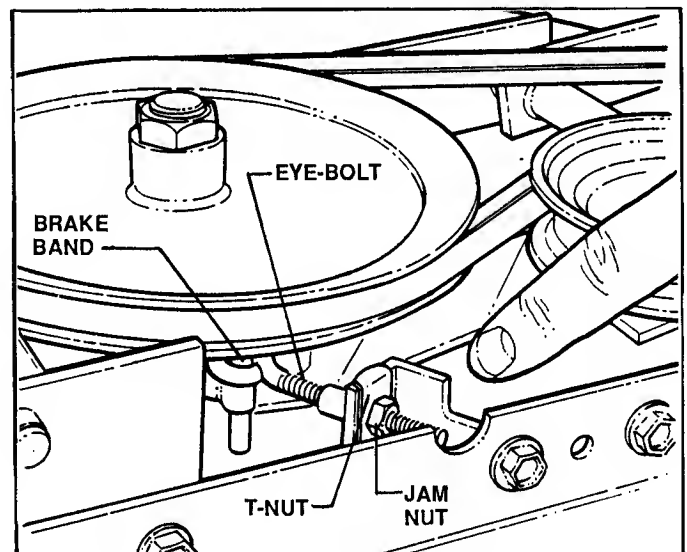

FIGURE 22
4. Tighten BRAKE BAND by loosening jam nut and turning T-nut, on end of eyebolt, clockwise 1 to 2 turns, or until brake band tightens. Make sure flanged lip on T-nut is positioned vertically to fit over top edge of anchor. See Figure 22.